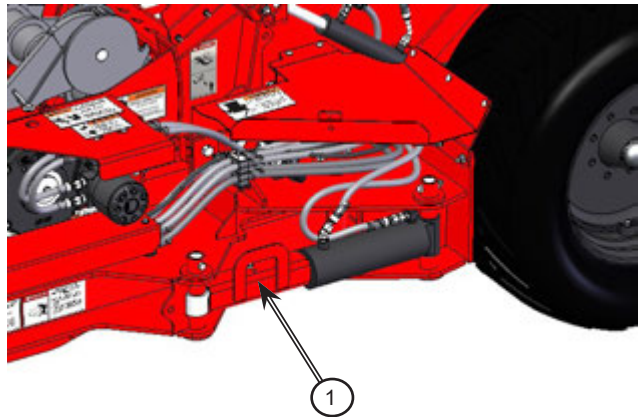

Figure 5.2: Remove the hitch transport lock
2. Remove the hitch transport lock (1) from the hitch cylinder rod; see *Figure 5.2*.